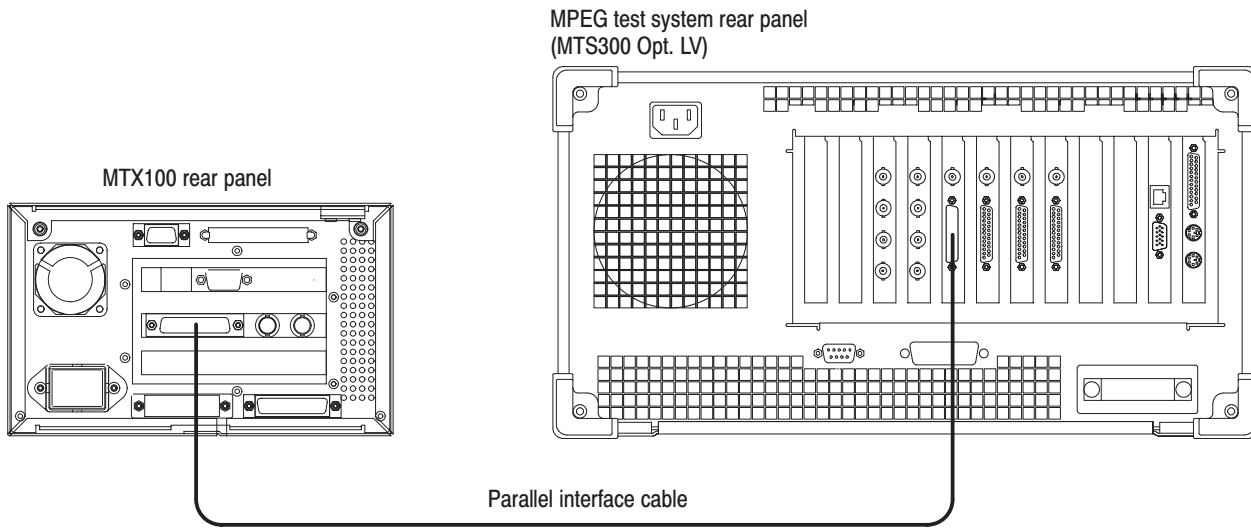

Figure 4-5: Second equipment connection for verifying the SPI interface
37. Disconnect the parallel interface cable from the SPI IN/OUT connector on the MPEG recorder & player, and then connect the parallel interface cable to the SPI (LVDS) 3 IN connector on the MPEG test system as shown in Figure 4-5.